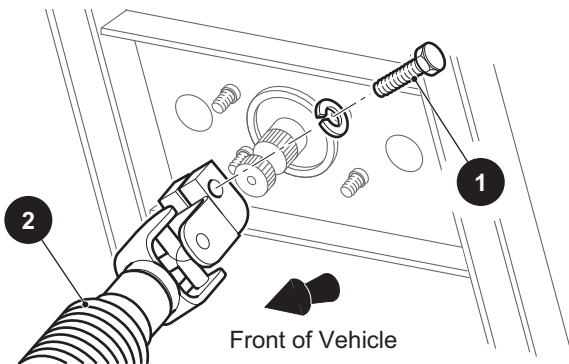

**Figure 4 Wheel Alignment**
5. Measure the distance between the chalk lines at both the front and rear of the tires (Figure 4). The measurement taken at the front of the tires should be 0" - 1/8" (0 - 3 mm) less than the rear.